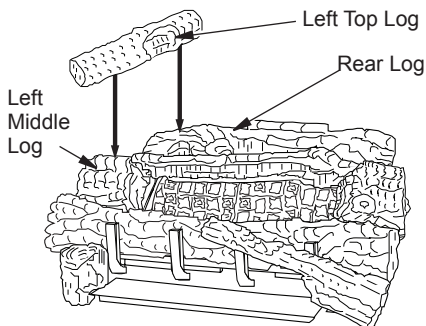

Figure 30 - Installing Left Top Log
9. Place the left top log (D-046) onto the rear log and the left middle log. Make sure to place the projection on the bottom of the left top log into the recessed areas on the rear and left middle logs (see Figure 30).